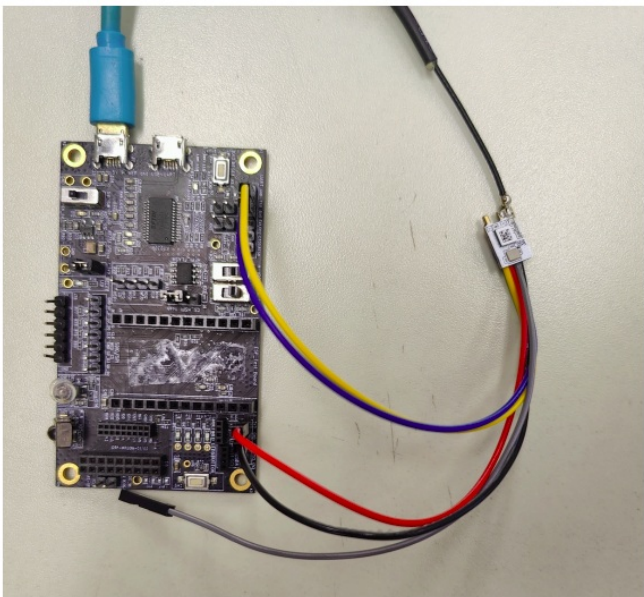

Figure 2: Hardware Connection
1. Solder the ESP8684-WROOM-07 module to the RF testing board as shown in Figure 2.